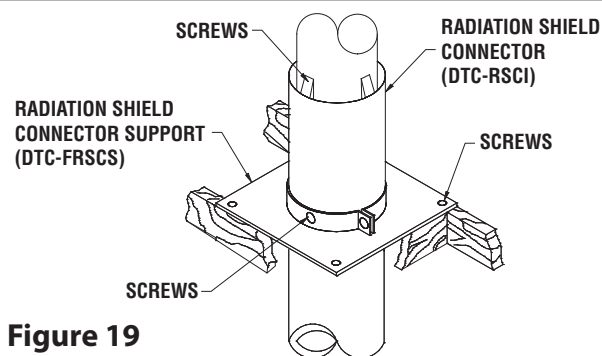

Figure 19
- Adjust the height until a minimum of (1") of the Radiation Shield Connector project below the ceiling (see Figure 19).
Step 11: Place the first chimney length on a flat surface with the male coupling on top. Slide a Flexible Shield (FLXS) on top of that length all the way to the bottom. Attach the flexible shield to the section using 3 x 1/2" stainless steel self tapping screws. Put this assembly on the tee and turn clockwise to lock in place. At the eave level from the top, install a Radiation Shield Connector (RSCI) and a Radiation Shield Support (FRSCS) attached but not tightened together (Figure 19). Slide the Radiation Shield Connector down until the bottom of the insulated tube exceeds the bottom of the ceiling. Adjust the height until a minimum of 1" of the Radiation Shield Connector projects below the eave. (see figure 17) and tighten the collar support. Stack the next chimney length on the first length. Be sure that the male and female threads are not in line when putting the lengths together. Turn the chimney clockwise to lock it in place. You may add a 1/2" stainless steel self tapping screw to prevent accidental unlocking.